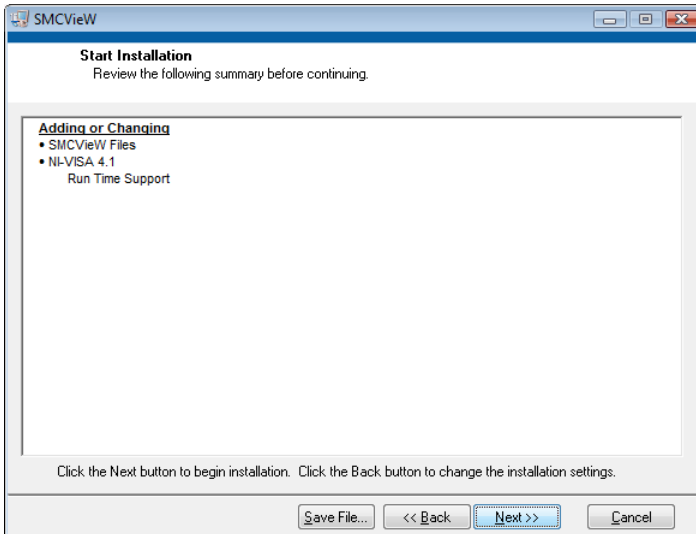
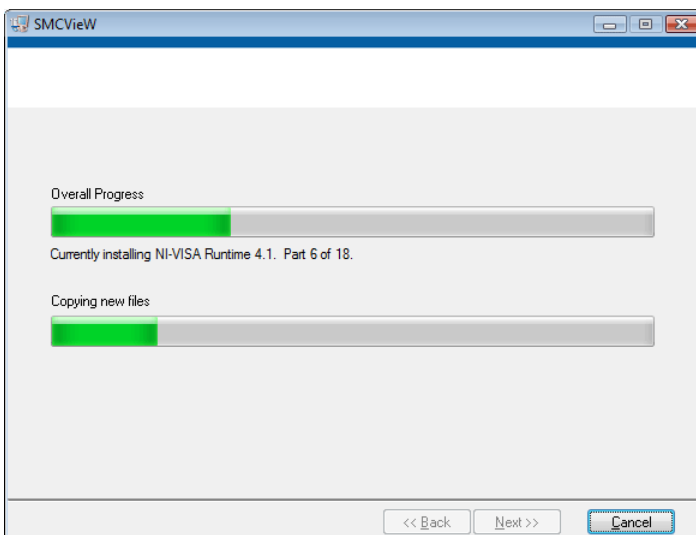

Figure 44. SMCView 5th installation screen
Figure 45. SMCView 6th installation screen
- Please press the "Next>" button and wait until installation process will be done (see Figure 44, Figure 45).